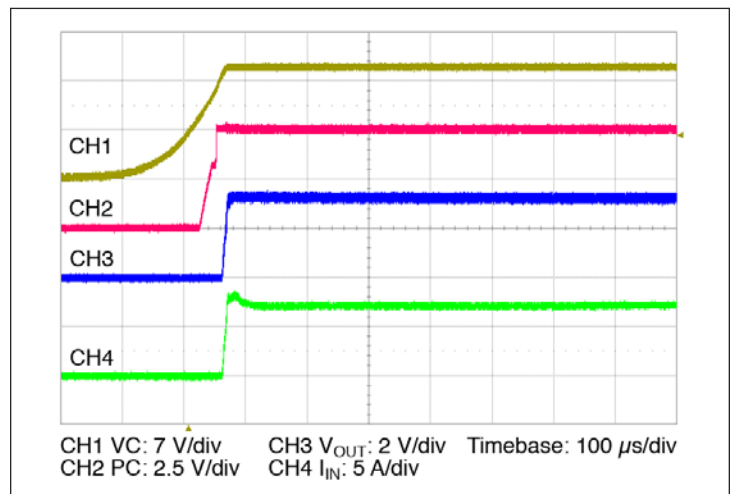

Figure 14 — Start up from application of V_C ; V_{IN} pre-applied $C_{OUT} = 0 \mu$ F
- Stand Alone Operation (VC applied after V_{IN}): In this case the module output will begin to rise upon the application of the VC voltage (See Figure 14). The Adaptive Soft Start circuit (See Section 10) may vary the output rate of rise in order to limit the inrush current to its maximum level. When starting into high capacitance, or a short, the output current will be limited for a maximum of 900 µsec. After this period, the adaptive soft start circuit will time out and the module may shut down. No restart will be attempted until VC is re-applied, or PC is toggled. The maximum output capacitance is limited to 4000 µF in this mode of operation to ensure a successful start.